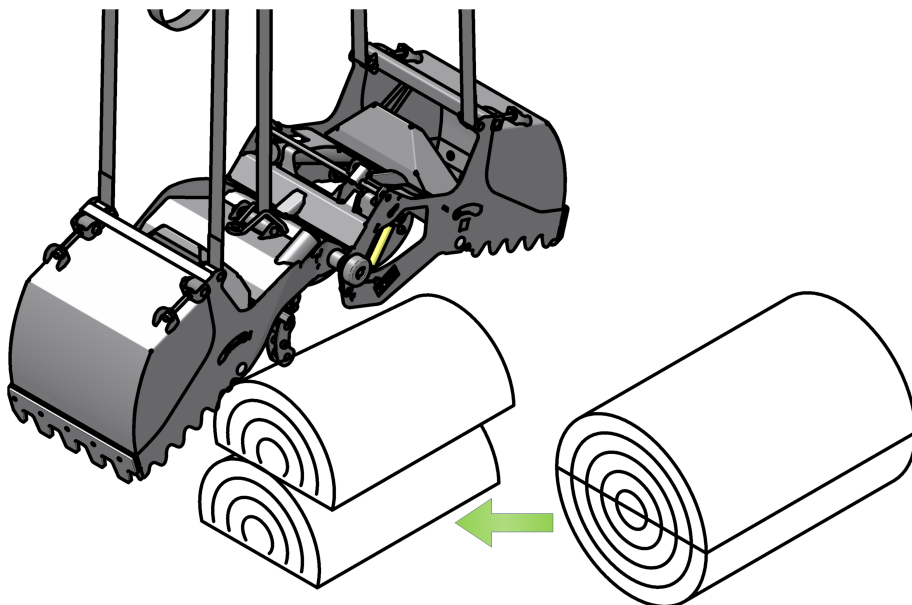

Figure 50. Example of cutting round bales
7. Ask your FMS advisor if your round bales (1) (see figure 50 on page 5-27) need to be cut, and how to cut them.